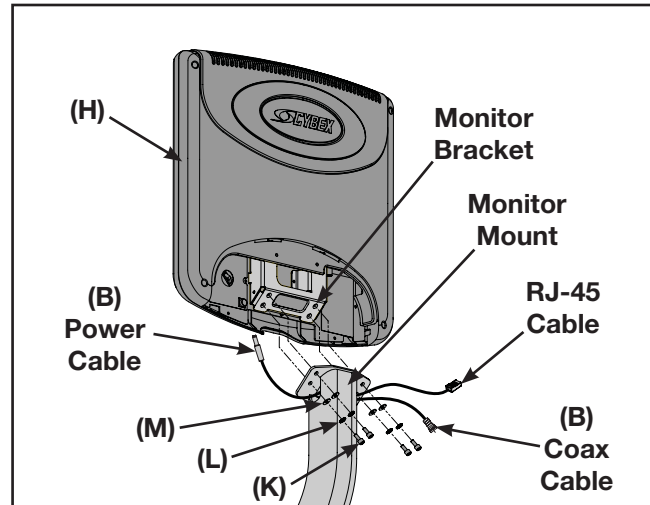

Figure 23
- C. Insert the power cable of (B) through hole on left side of monitor mount. See Figure 23.
- D. Insert the RJ-45 cable and the coax end of (B) through hole on right side of monitor mount. See Figure 23.
- E. Using a 3 mm Allen wrench secure the monitor bracket to the monitor mount using the four mounting screws (K), four lock washers (L) and four flat washers (M). See Figure 23.